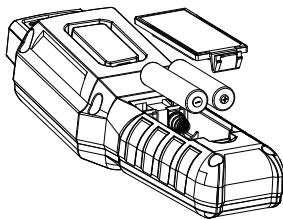

Figure 6
- a. The standard battery is 2*1.5V AAA battery, please refer to figure 6 for installing or replacing the battery.